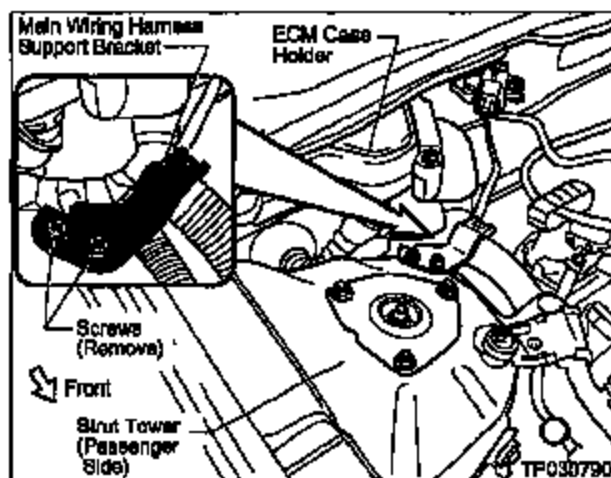

Figure 3
2. Remove two Screws that hold the Main Wiring Harness Support Bracket to the Strut Tower (see Figure 3).